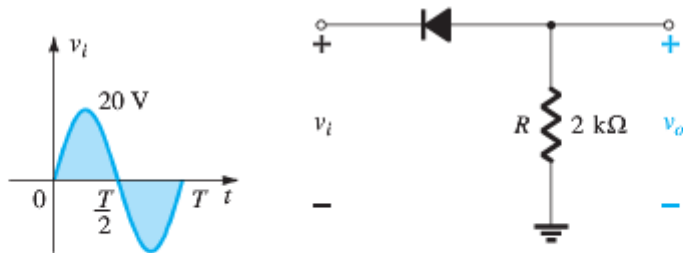

FIG. 2.49
- a. Sketch the output v_o and determine the dc level of the output for the network of Fig. 2.49.